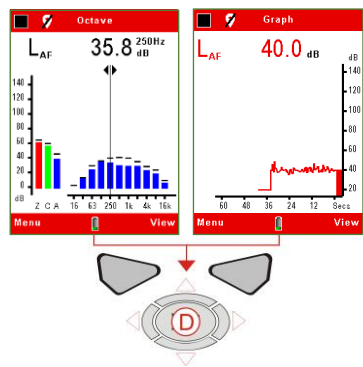

Figure 11 Stop Screens.
**TAKING MEASUREMENTS (Refer to Figure 11)**
Prior to taking a measurement, the instrument should be in 'STOP' mode (red bars) as shown in Figure 11.